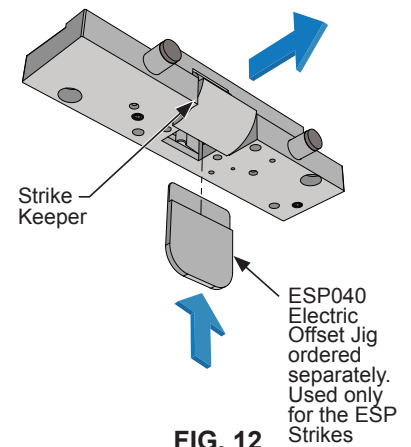

FIG. 12
- E) Insert the **ESP040** Electric Offset Jig while holding the Strike Keeper. **(Fig.12)**